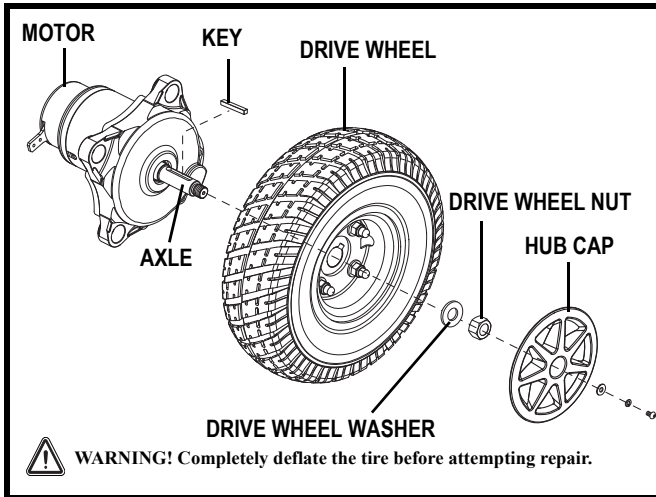

Figure 27. Jazzy Select 6 and Select 6 with Power Seat Drive Wheel Removal
5. Remove the hub cap, if equipped. See figure 27.
6. Remove the drive wheel nut and washer from the axle. See figure 27 or 28.
12. Reinstall the drive wheel nut and washer onto the axle and tighten. See figure 27 or 28.